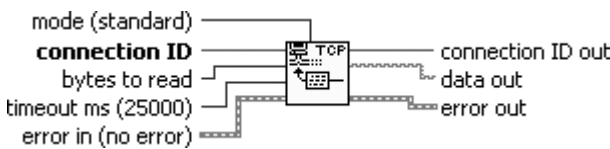

Figure 16.52
2. Read (or write, in other cases) data. Data is always passed as a string type (see Figure 16.52).